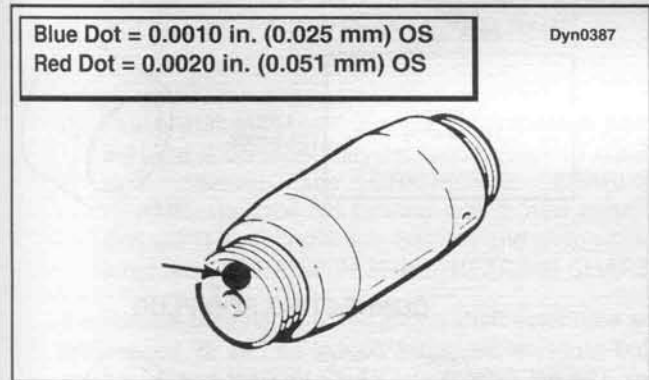

Figure 3-78. Oversize Crank Pin Identification
See Figure 3-78. Oversize (OS) crank pins are available in two oversizes: 0.0010 and 0.0020 in. (0.025 and 0.051 mm) OS crank pins will have a blue or a red dot painted on their ends. A blue dot indicates 0.0010 in. (0.025 mm) OS, a red dot indicates 0.0020 in. (0.051 mm) OS. Standard size crank pins will not be marked.